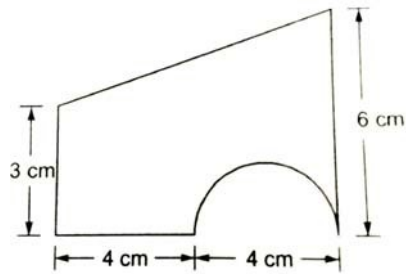

Fig. 6
- (a) A semicircular area is removed from a trapezium as shown in figure 6 determine the centroid of the remaining area.